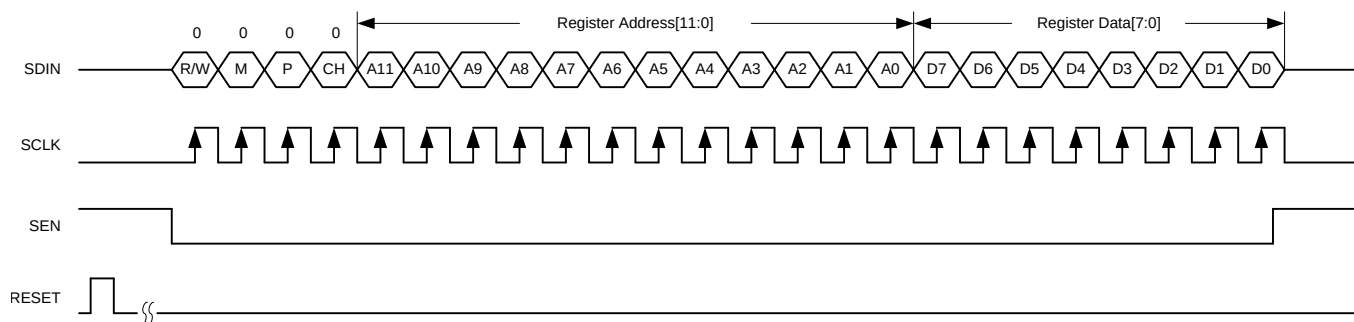

Figure 69. Serial Register Write Timing Diagram
- Writing the register content as shown in Figure 69. When a page is selected, multiple writes into the same page can be done.